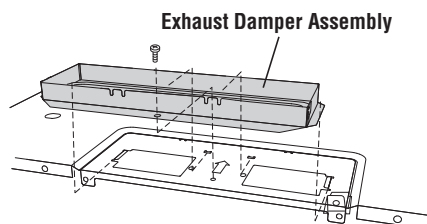

Figure 17
6. Attach the Exhaust Damper Assembly to the fan cover on the top of the outercase cabinet by sliding it into the slits in the same direction as the arrow. Use 1 Tapping Screw 4 x12 mm from the INSTALLATION HARDWARE and tighten into place. See Figure 17.